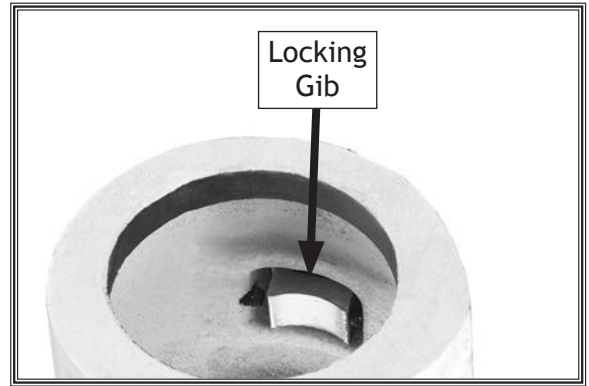

Figure 18. Locking gib location.
- Place the locking gib into the recessed pocket on the inside of the column bracket casting (see Figure 18).